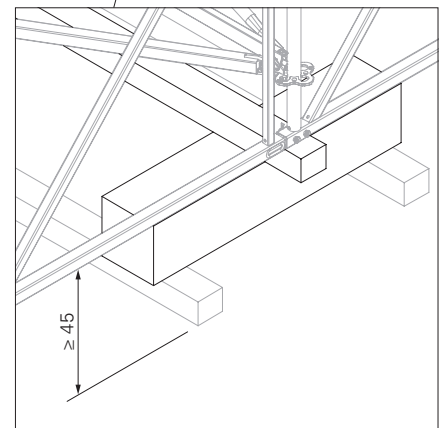

Fig. A4.01c
2. Set up the support with height $\geq 45 \text{ cm}$. (Fig. A4.01c)